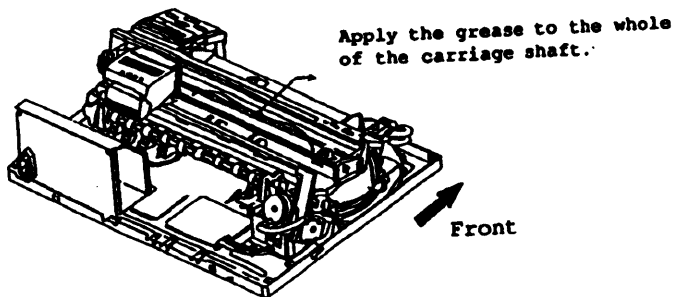

Figure 4
7. Move the carriage to the left end, then apply a quarter of the grease (approx. 100 mg) to the whole of the carriage shaft, while taking the end of it and rotating it. (Figure 4)